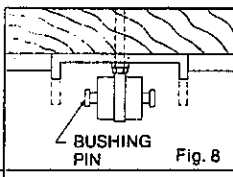

Fig. 8
- C.** Be sure the pin is centered in the rubber bushing. See Figures 8 and 9.